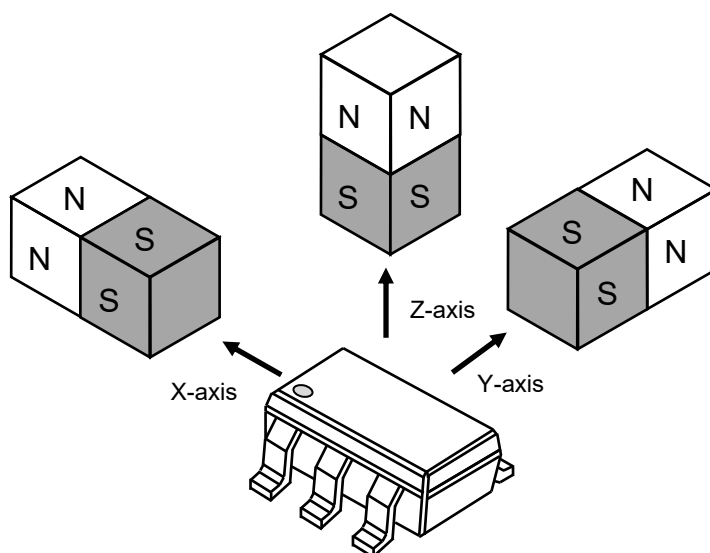
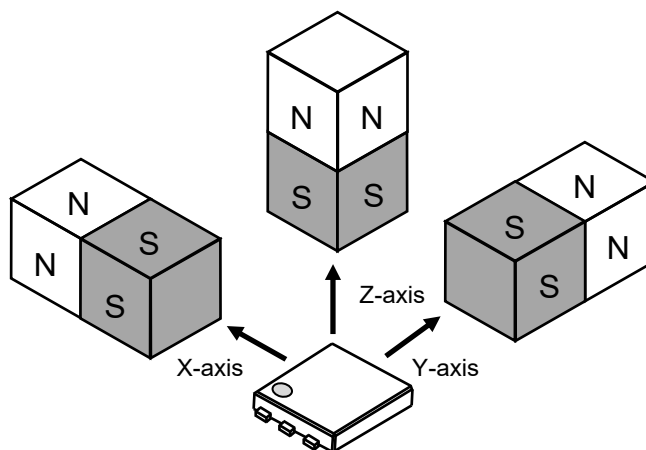

Figure 12 SOT-23-5
Figure 13 HSNT-6(2025)
**Figure 12** and **Figure 13** show the direction in which the magnetic flux is applied. The Z-axis is defined as the direction perpendicular to the package marking surface, while the X-axis and Y-axis are defined as the directions perpendicular to the sides of the package. The direction of application where the IC side becomes the S pole is defined as the positive, and the direction of application where the IC side becomes the N pole is defined as the negative. This IC can detect two out of the three axes: X, Y, and Z.
When the S pole of a magnet approaches the IC from the positive direction of each axis X, Y, and Z as shown in **Figure 12** and **Figure 13**, and the magnetic flux density of the S pole exceeds the operation point ( $B_{OP}$ ),  $V_{OUT1,2}$  changes from "H" to "L". When the N pole of a magnet approaches the IC from the positive direction, and the magnetic flux density of the N pole exceeds the release point ( $B_{RP}$ ),  $V_{OUT1,2}$  changes from "L" to "H". When  $B_{RP} < B < B_{OP}$ ,  $V_{OUT1,2}$  retains the level.
When the S pole of a magnet approaches the IC from the positive direction of each axis X, Y, and Z as shown in **Figure 12** and **Figure 13**, and the magnetic flux density of the S pole exceeds the operation point ( $B_{OP}$ ),  $V_{OUT1,2}$  changes from "L" to "H". When the N pole of a magnet approaches the IC from the positive direction, and the magnetic flux density of the N pole exceeds the release point ( $B_{RP}$ ),  $V_{OUT1,2}$  changes from "H" to "L". When  $B_{RP} < B < B_{OP}$ ,  $V_{OUT1,2}$  retains the level.